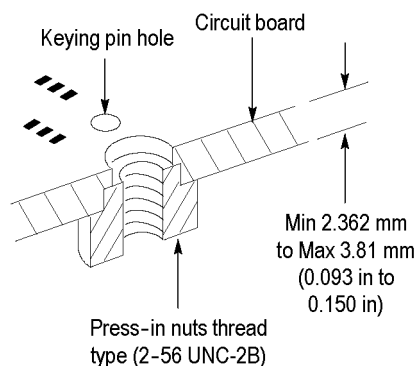

Figure 13: Press-in Nuts installation
1. Install the press-in nuts on the PCB by following the manufacturer's installation procedure. You can find more details on press-in nut installation in the following illustration. (See Figure 13 on page 21.)